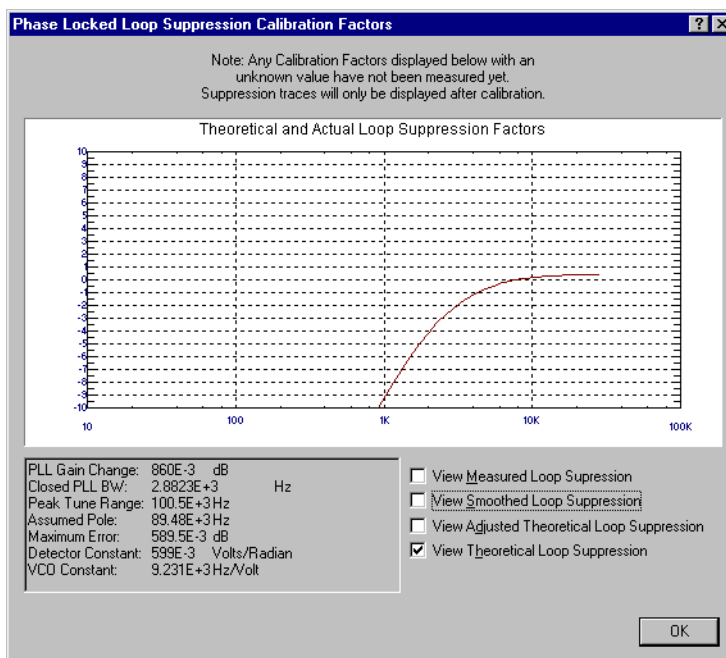

Figure 16-6 Theoretical Loop Suppression Curve
- 3 “Theoretical” suppression curve (Figure 16-6) - this is the predicted loop suppression based on the initial loop parameters defined/selected for this particular measurement (kphi, kvco, loop bandwidth, filters, gain, etc).